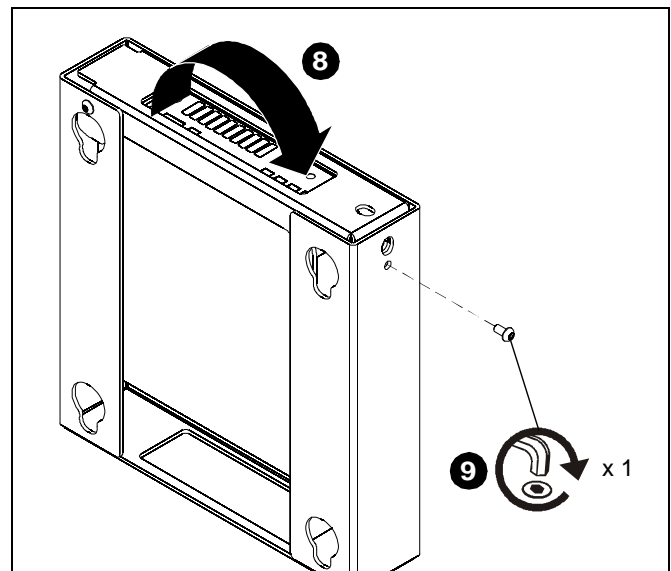

Figure 4
8. Close cover of CPU holder. (See Figure 4)
9. Secure CPU holder cover with button head security screw (removed in Step 3) using 5/32" security hex wrench (C). (See Figure 4)